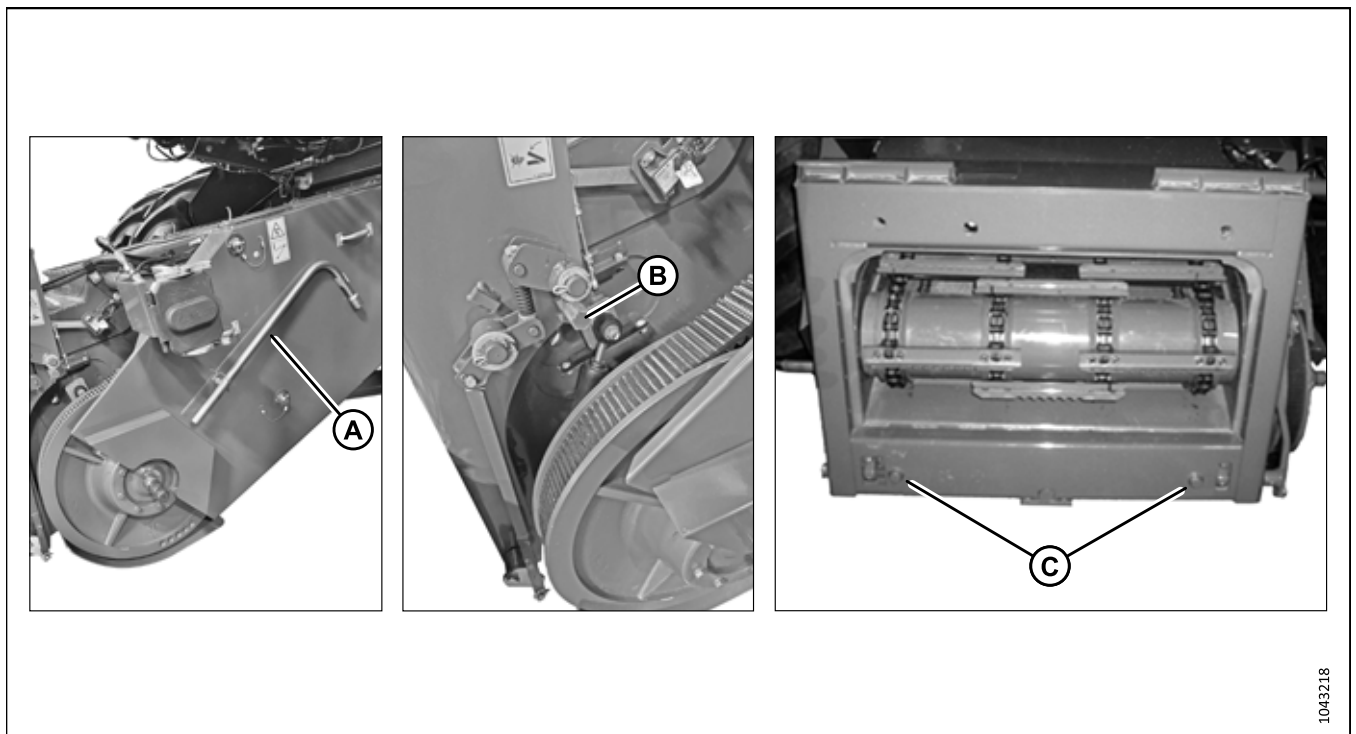

Figure 10.37: Feeder House
Ensure that alignment pins (C) (refer to Figure 10.37, page 403) on the feeder house align with holes (B) in the float module frame.